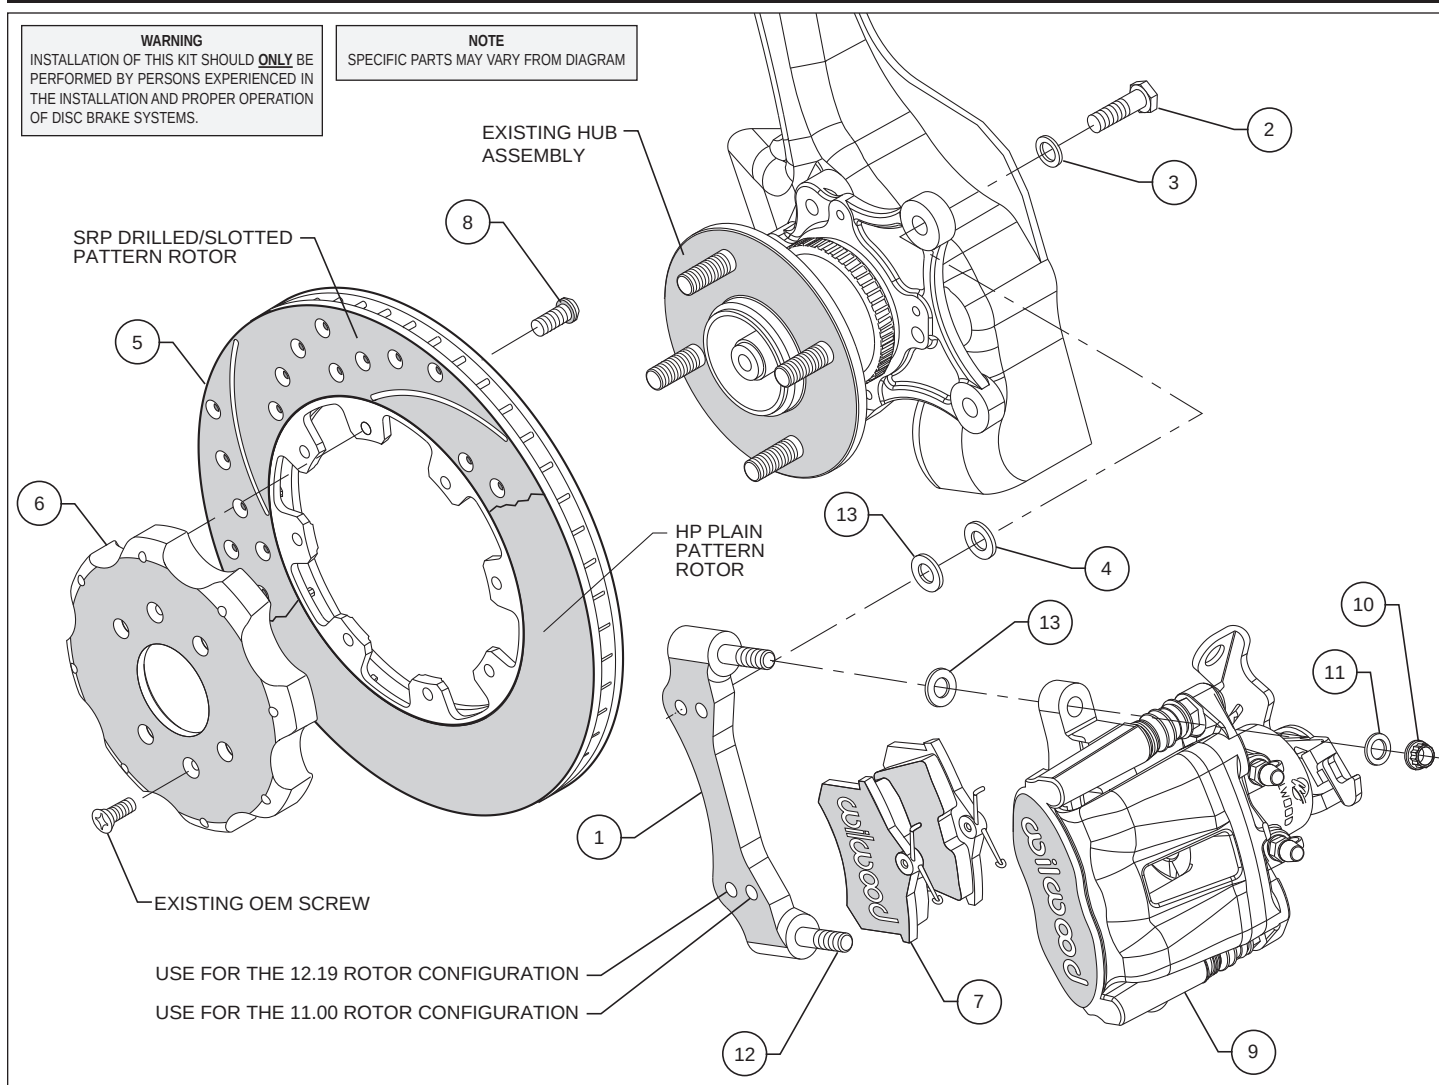

Figure 1. Typical Installation Configuration
- The caliper mounting bracket (1) should be installed first with clean, dry threads on the mounting bolts. Install the bracket (1) on the outboard side of the hub assembly by sliding bolt (2) from the inboard side of the hub assembly through washer (3) through the existing OEM caliper mounting holes and thread into lower holes in bracket (1) (see figure 1). Place two shim washers (13) between the hub assembly and the caliper mounting bracket (1). The mounting bracket (1) must tighten squarely against the outboard side of the hub assembly face. Inspect for interference from casting irregularities, machining ridges, burrs, etc. Use two shims (13) between the mounting bracket (1) and the hub assembly during initial trial fitting.
- With the larger I.D. side of the rotor (5) facing away from the hat (6), attach rotor (5) to hat (6) using bolts (8) as shown in Figure 1. Using an alternating sequence, remove bolts (8) one at a time, apply red *Loctite*® 271 to the threads, and torque to 25 ft-lb.
- Slide the brake pads (7) up into the caliper (9) from the bottom until the "v" spring clip snaps into place against the anvil. They should install easily without interference.
- Lubricate caliper mounting studs and nuts with lightweight oil. Install two shims (13) over each stud (12) on the radial mount bracket (1). Slide the caliper (9) in place over the studs and rotor and install the washer (11) and lock nut (10) to hold the caliper in place. The caliper bleed screw should be pointing toward the rear of the vehicle. Snug the lock nuts (10) and check that the caliper (9) is centered over the rotor (5). Add or subtract .016" shims (4) and/or .035" shims (13) as necessary between the caliper mounting bracket (1) and the spindle face to center the caliper (9) on the rotor (5).
- Check that the outside radius of the brake pad (7) is aligned with the outside diameter radius of the rotor face. Add or subtract shims (13) between the caliper (9) and caliper mounting bracket (1) to gain the proper alignment.
- Once all clearances have been checked, remove the wheel, caliper and rotor from the axle flange. Secure the caliper mounting bracket (1) to the spindle face while applying red *Loctite*® 271 on the bolt threads (2). Torque the bolts (2) to 35 ft-lbs. Reinstall the rotor and again use several lug nuts to hold it in place being sure to align the small countersunk holes in the hat (6) with the corresponding holes in the hub (if applicable). Reinstall the caliper, torque the caliper nuts (10) to 30 ft-lbs.